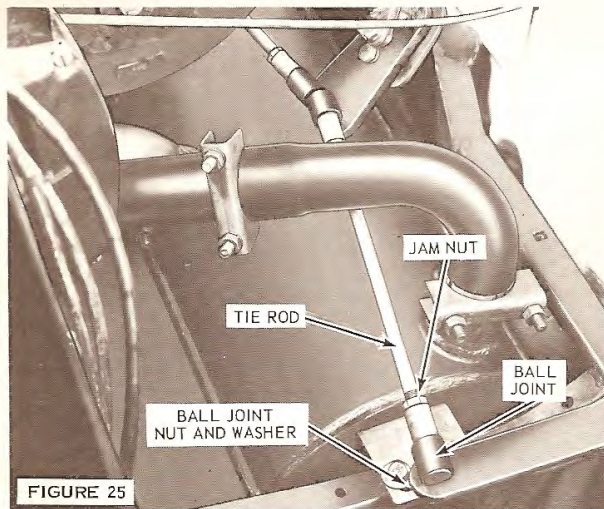

FIGURE 25
3. Loosen jam nut, as illustrated in Figure 25.